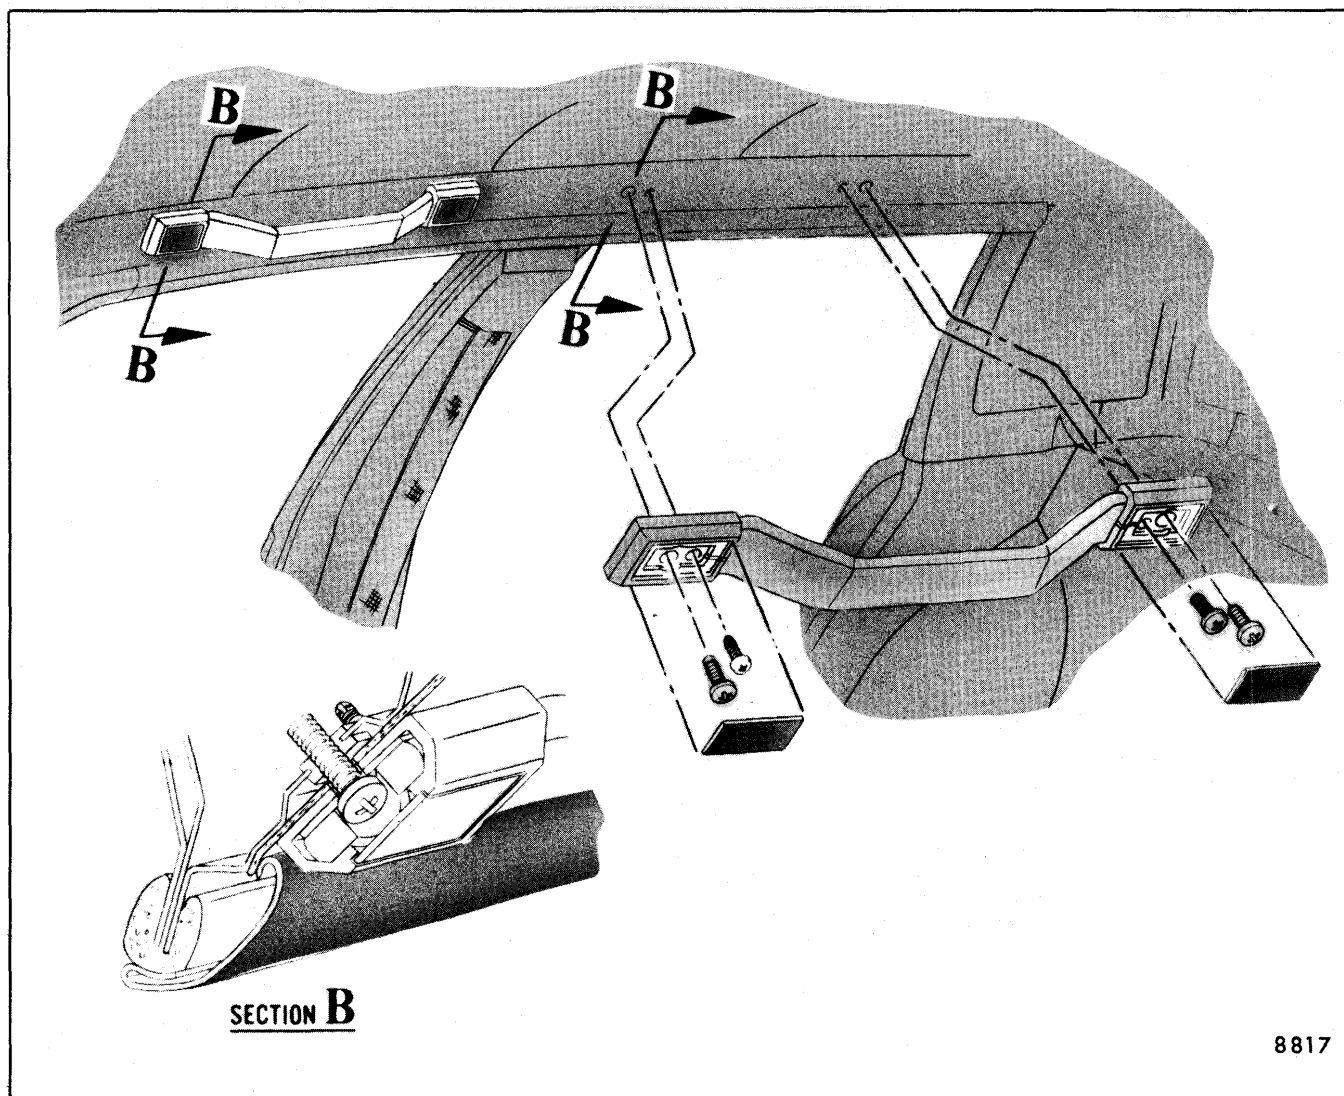

Fig. 8-5-Assist Strap
2. Remove four (4) assist strap attaching screws and remove assist strap assembly (Fig. 8-5).